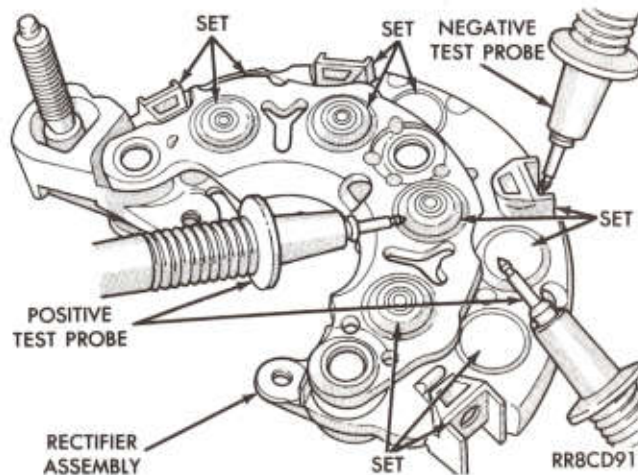

Fig. 10—Testing Diodes
(4) With positive test probe to stator terminal and negative test probe to positive diode location, test for resistance (7 to 11 ohms or .4 to .6 volts drop). Then place the negative test probe on the negative diode location, NO continuity should be detected. Perform the preceding procedure on each stator terminal to diode set (Fig. 10).